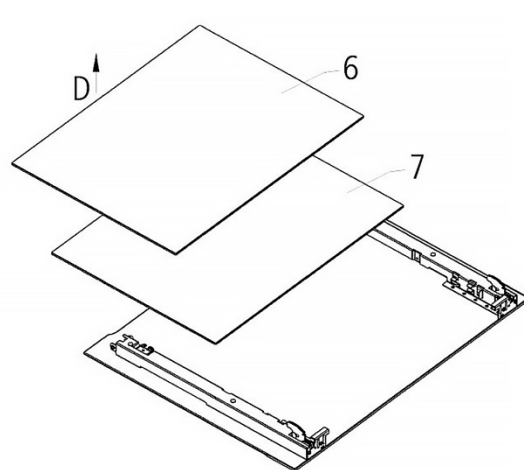

Fig.6
4. Take out the Low-E glass 6 and middle glass 7. (Fig.6)